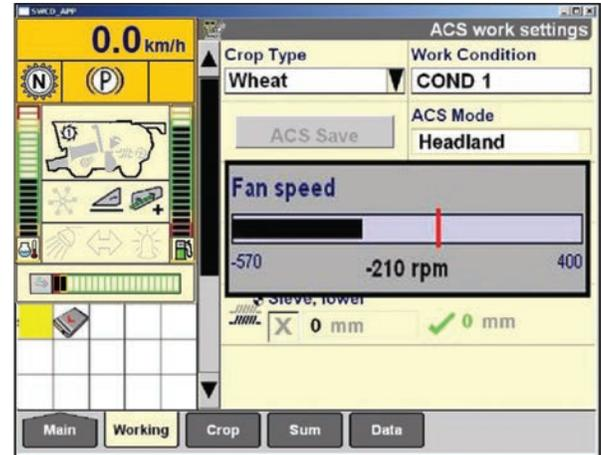

Figure 21.1
Adjustments are made using switches on the right hand console. As adjustments are made, pop-up windows are displayed to indicate current settings to the operator (see figure 21.1).
- When in Headland mode, values represent the difference between Harvest settings and the desired Headlands setting. (In figure 21.1, “-210” indicates a reduction off a speed of 210 rpm when in Headlands mode.)